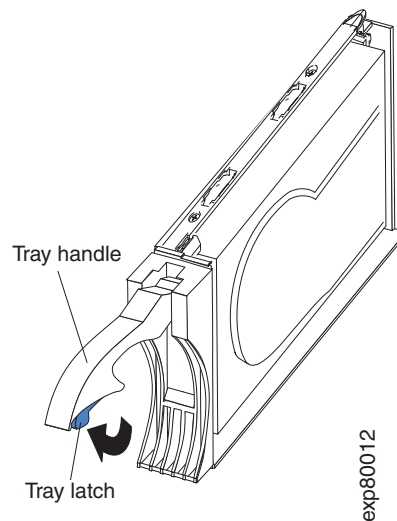

Figure 41. Drive CRU handle
- b. Pull the handle on the tray out so that it is in the open position, as shown in Figure 41.
- a. Release the latch on the drive CRU by pressing on the inside of the bottom of the tray handle, as shown by the arrow in Figure 41 on page 75.